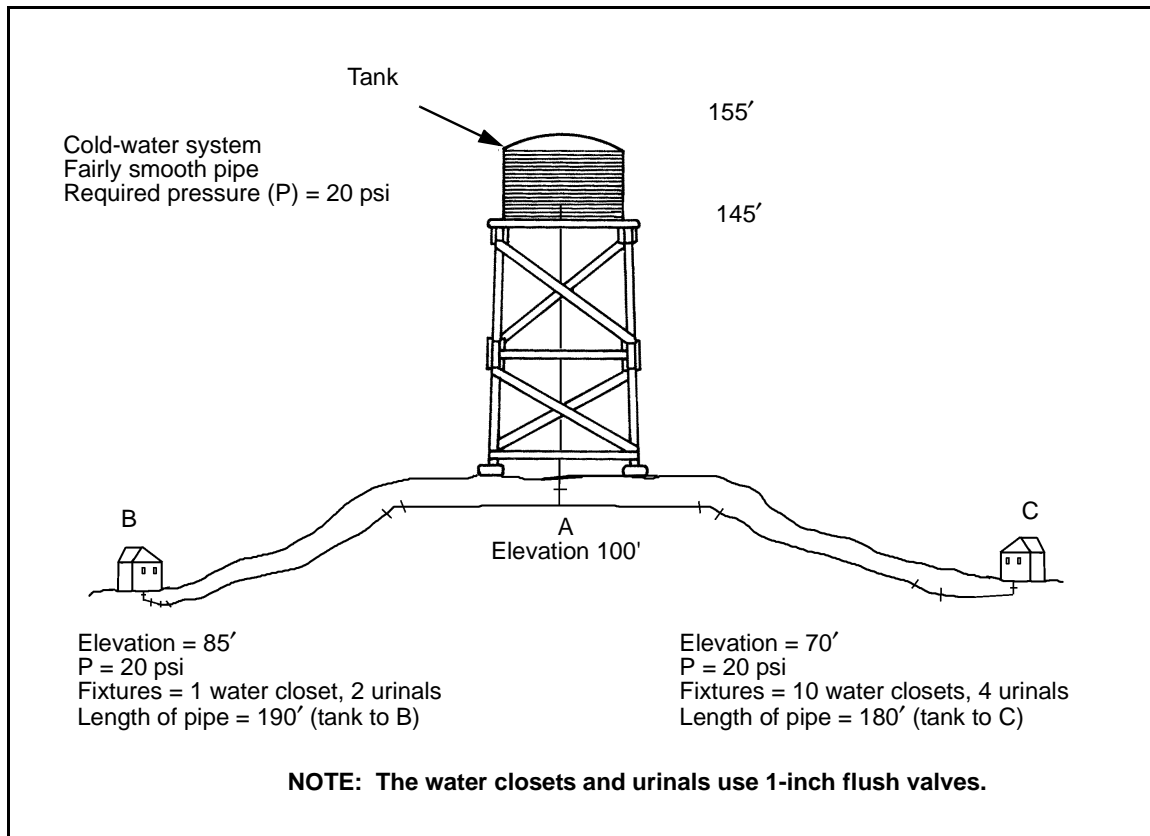

Figure E-5. Water Line, Design 2
**Step 3.** Determine the pipe length (Figure E-5).
**Step 3.** Determine the length of the pipe (*Figure E-5*).
**Step 3.** Determine the length of the pipe (Figure E-5, page E-8).